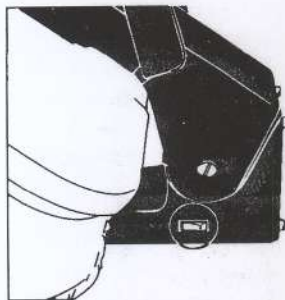

FIGURE 1
1. With Pressing Plate in lifted position, plug power cord into electrical outlet, and set On/Off Switch to "On" position (FIGURE 1).